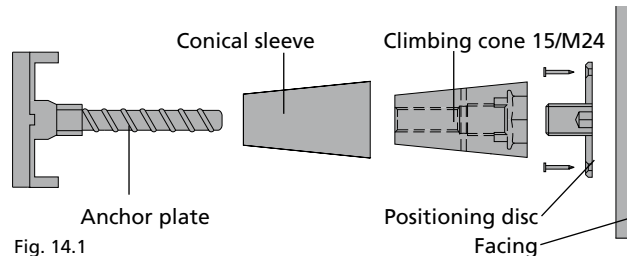

Fig. 14.1
(Fig. 14.1 and 14.2)
5. Screw the anchor plate into the climbing cone (Fig. 14.1).